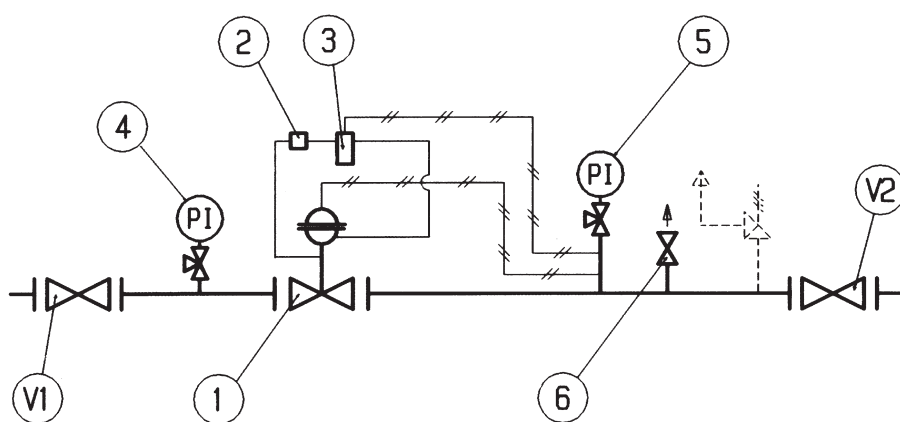

Fig. 15
5.3 COMMISSIONING THE REGULATOR REVAL 182 WITH PILOT P90+RR4 (FIG.15)